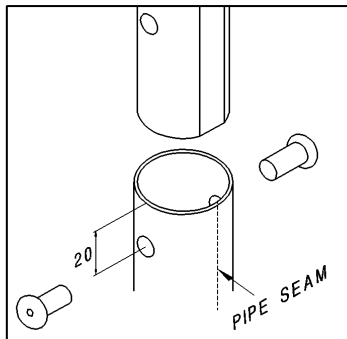

Figure 7
3. Drill two holes 10.5mm (*NOTE: Use metric measurements for this operation*) in diameter on centre-punch positions. (Figure 7.)
*Note: When using the Rutland Land Tower Kit, items 2 and 3 can be ignored as the unit is pre-drilled.*